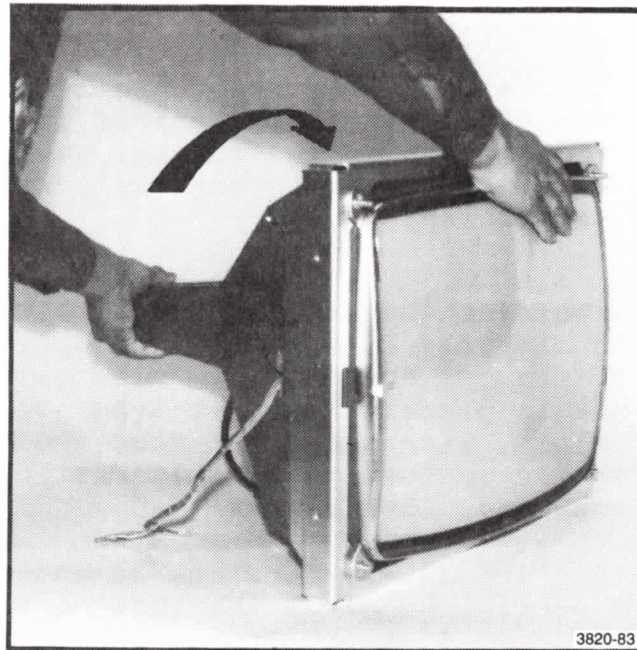

Figure 11-5. Tilting the Crt Module Forward.
12. While holding the crt in place, tilt the crt shield assembly forward by placing one hand on the top of the crt and shield. While doing this, hold the crt in place to keep it from slipping out of the shield. With the other hand, hold the neck of the shield so that the crt is resting face down on the foam pad. (See Figure 11-5.)